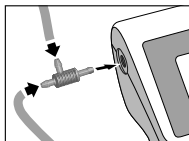

Fig.11
1. Connect the air hoses of the cuff and bulb to the T-piece. Insert the T-piece into the socket on the device casing (fig. 11).